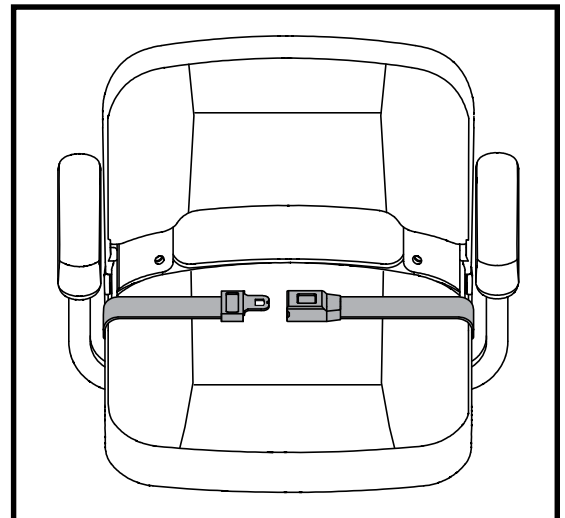

Figure 30. Positioning Belt - Metal Tab Style
Your scooter seat may be equipped with an auto-type positioning belt that can be adjusted for operator comfort. See figure 30. The positioning belt is designed to help support the operator so that he or she does not slide down or forward in the seat. The positioning belt is not designed for use as a restraining device.
1. Insert the metal tab on the right side of the belt into the plastic housing on the opposite strap until you hear a “click.” See figure 30.